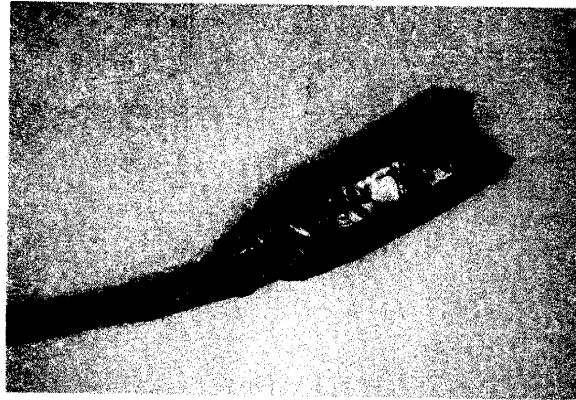

Figure 22
- 5.07 Wrap the entire "Unipak" bag with two layers of vinyl tape as shown in Figure 22.